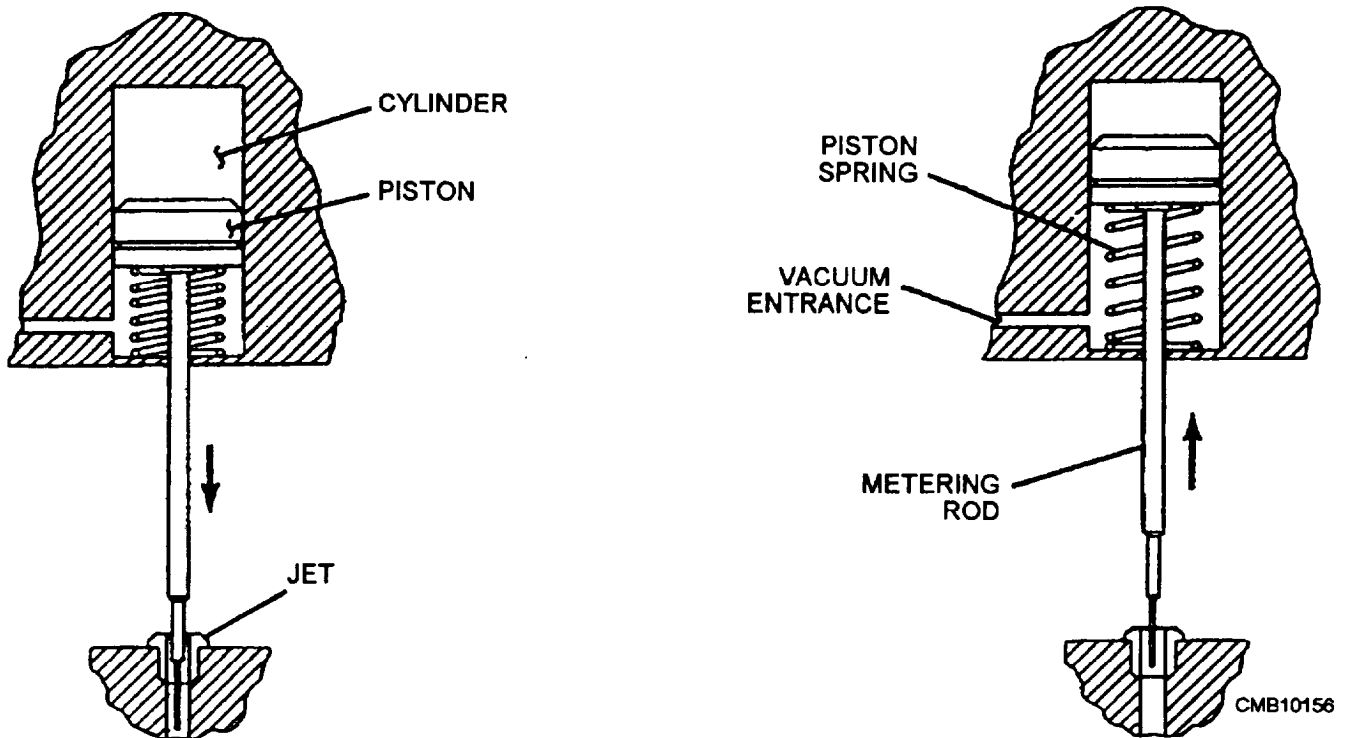

Figure 4-27.—Vacuum operated metering rod.
- The VACUUM OPERATED metering rod (fig. 4-27) that is controlled by engine vacuum is connected to a diaphragm. At steady speeds, power demands are low and engine vacuum is high, and the piston pushes the metering rod into the jet against spring pressure, restricting the flow to the discharge tube. When the load increases, vacuum decreases, causing the piston spring to lift the metering rod out of the jet, progressively increasing the flow of fuel to the discharge tube.